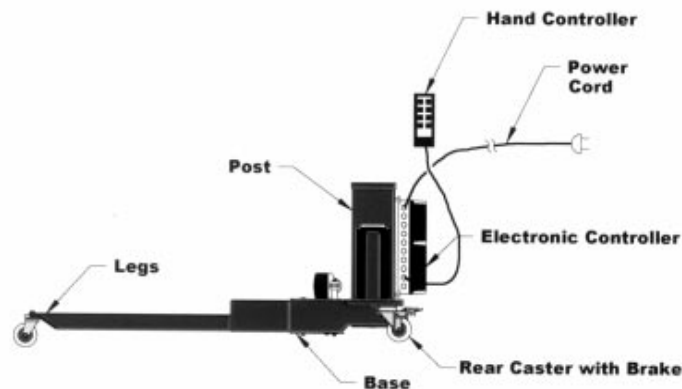

Figure No. 1 (Base Only)
6. The BASE ASSEMBLY, Figure No. 1, is shipped with the CONTROLLER mounted on the side with all of the ACTUATOR cables, except the LIFT ACTUATOR cable and the BATTERY connected to the CONTROLLER. Upon completion of assembly, it will be necessary to connect the LIFT ACTUATOR cable and the BATTERY cable to the CONTROLLER prior to activating any of the HANDSET functions.
As part of the BASE ASSEMBLY (see Figure No.1), the HAND CONTROLLER is connected to the CONTROLLER by a coiled cord assembly. This cord is wrapped around the BASE ASSEMBLY Post during shipping. Carefully unwrap the HAND CONTROLLER during the unpacking procedure and place it in a location where it will not be damaged during assembly.